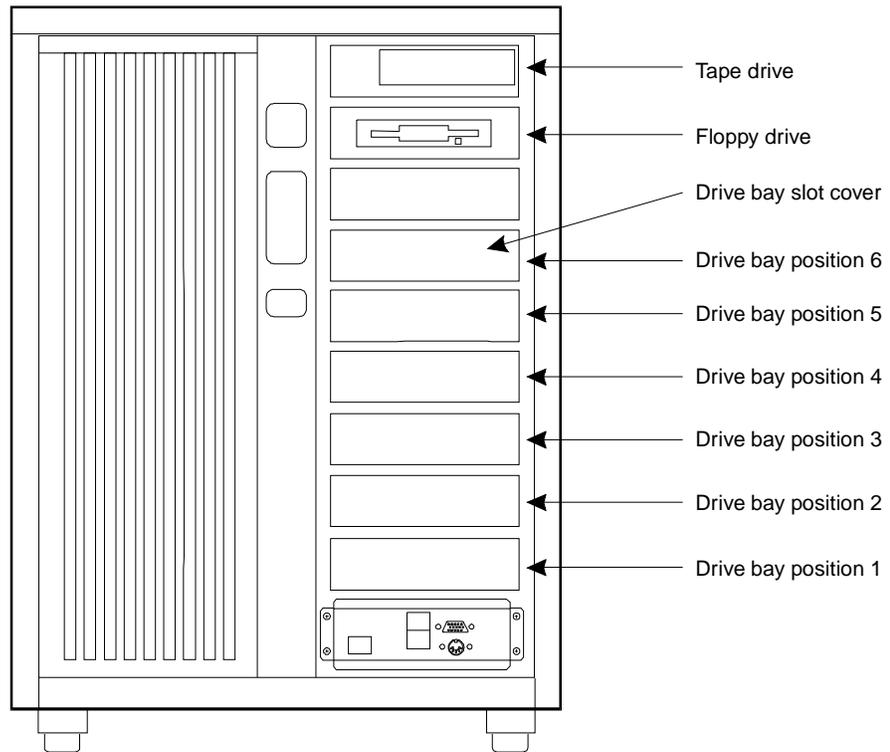

Figure 3-3. Front View of the MAP/100
1. Locate the tape drive on the front of the MAP/100 (Figure 3-3).
1. Locate the floppy disk drive on the front of the MAP/100 (Figure 3-3).